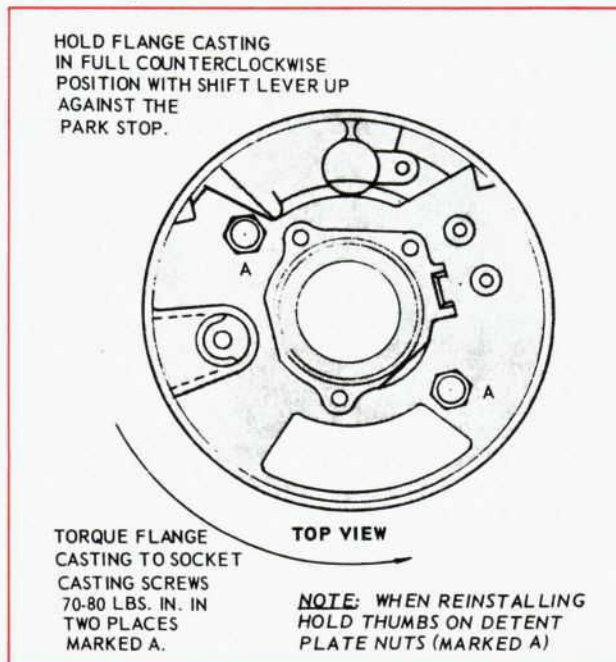

Figure 11—Flange Casting Retaining Nuts
6. Remove the turn signal switch screws (3) and pull the wires up enough to permit access to the detent flange retaining screws (Fig. 11).